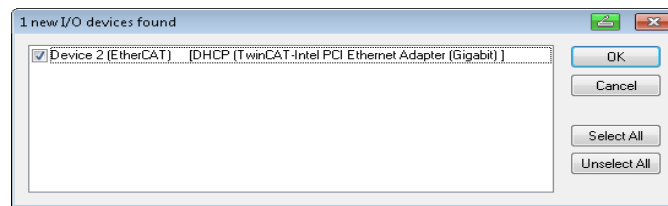

Fig. 6-24 Ethernet adapter with EtherCAT driver
- The device scan will attempt to find new Ethernet adapters with the EtherCAT driver (Fig. 6-24). Click **OK** to continue.